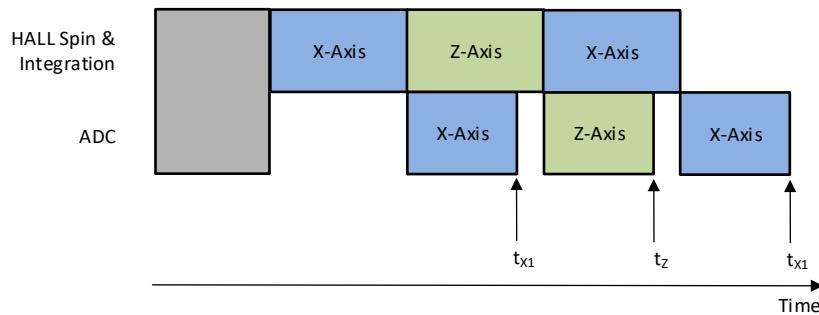

Figure 8-3. XZX Magnetic Field Conversion
In absolute angle measurement, application sensor data from multiple axes are required to calculate an accurate angle. The magnetic field data collected at different times through the same signal chain introduces error in angle calculation. The TMAG5170 offers pseudo-simultaneous sampling data collection modes to eliminate this error. Figure 8-3 shows an example where MAG_CH_EN is set at 1101b to collect XZX data. Equation 14 shows that the time stamps for the X and Z sensor data are the same.
- t_{X1} , t_Z , t_{X2} are time stamps for X, Z, X sensor data completion as defined in Figure 8-3.